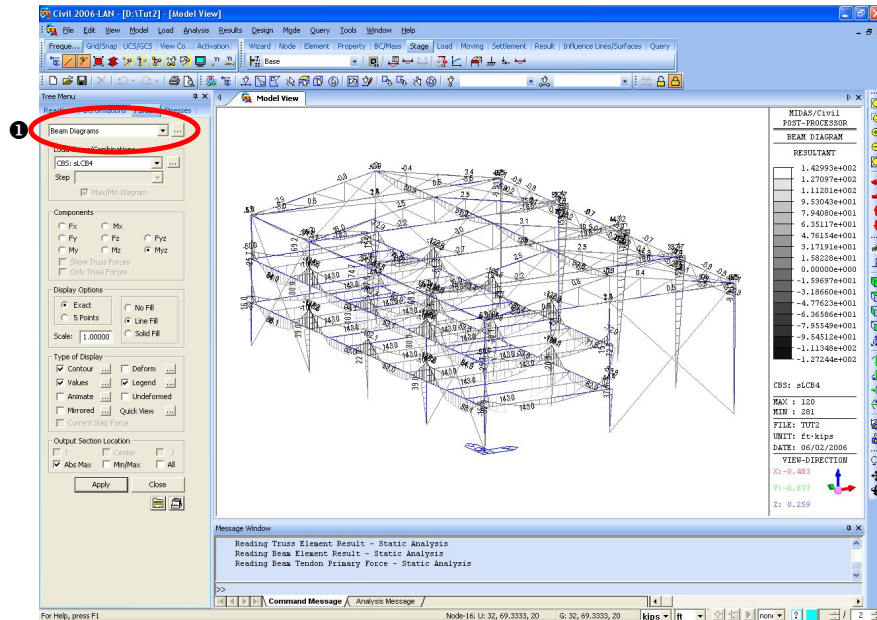

Figure 2.33 Bending Moment Diagram of the Total Model
2. Select **Forces** in the post-processing functions tab (Fig.2.33–).
If there are many elements as is the case shown in Fig.2.33, the verification of bending moments from the diagram becomes next to impossible. In such a case use  **Select Plane** to selectively *activate* only the plane of interest.